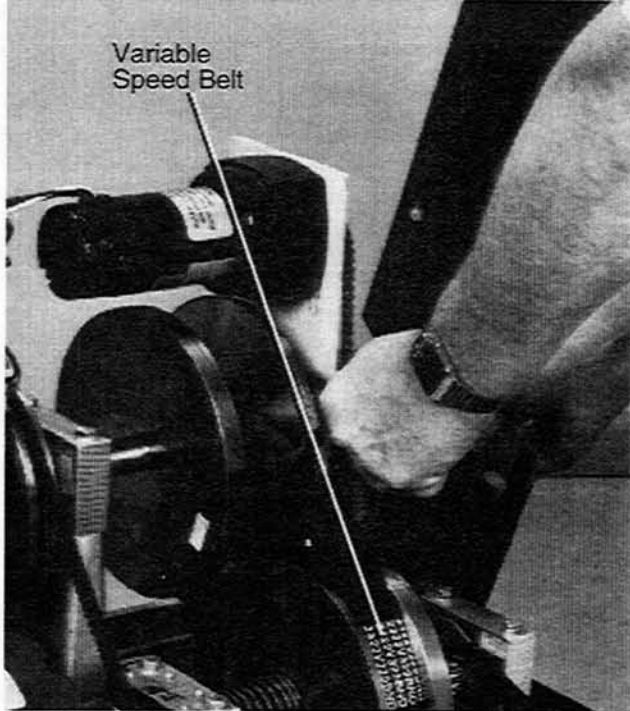

Figure 3-13. Loosening Variable Speed Belt
3. Place a rope or flexible belt around the variable speed belt, then pull straight up to loosen belt. See Figure 3-13.